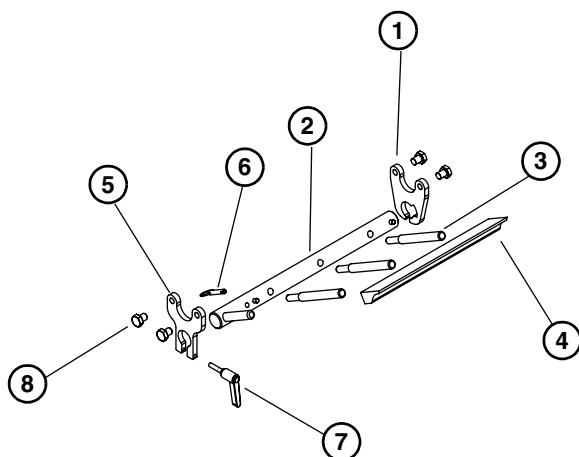

Figure 26
Typical Scraper Components (**Figure 26**)
1. Attach the scraper adjust plate (**Figure 26, item 1**) and the scraper mount plate (**Figure 26, item 5**) to the frame using four M10-1.5 x 12mm hex head cap screws.